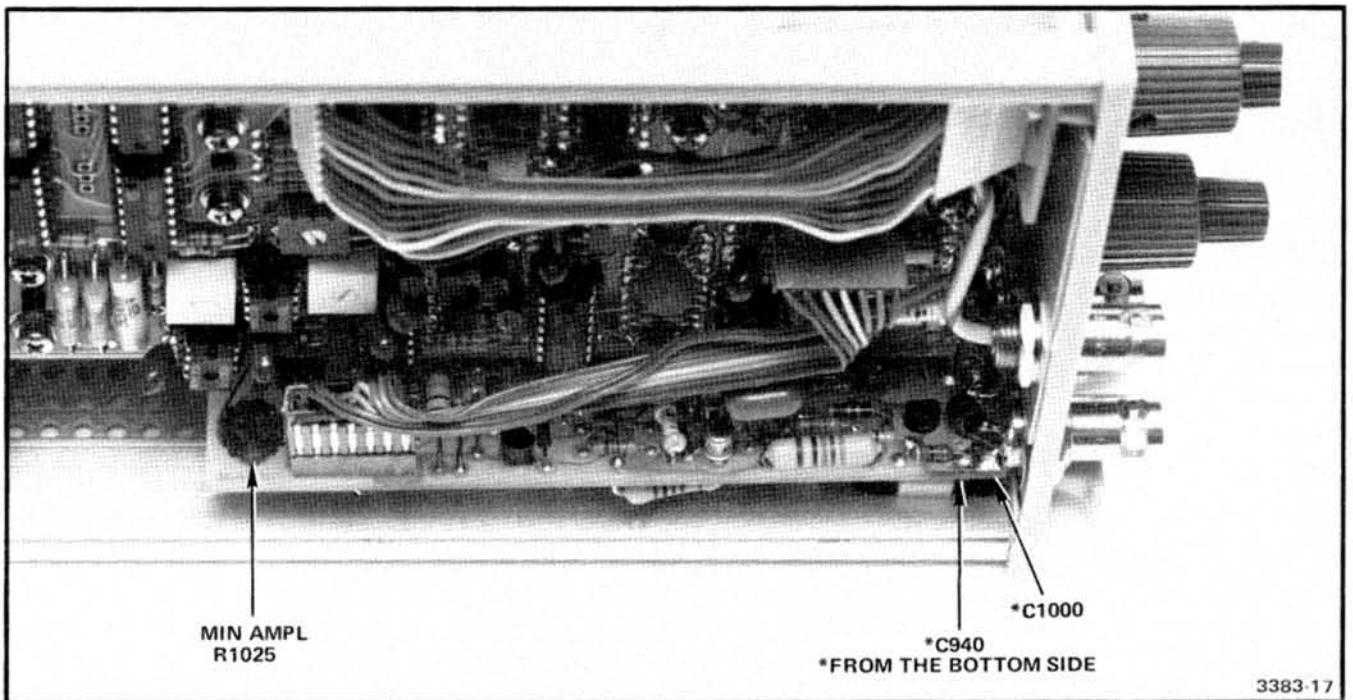

Fig. 4-7. Adjustment locations for the A3 Fast Rise Output circuit board.
d. Adjust—Min Ampl (R1025) for positive-going and negative-going FAST RISE OUTPUTS signal amplitude of ≥ 50 mV and ≤ 100 mV. Refer to Fig. 4-7.